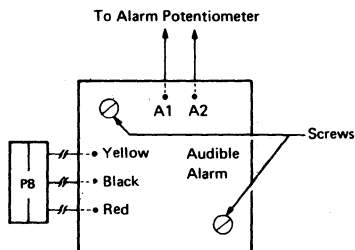

Figure 4-10. Audible Alarm Assembly.
3. Remove the two screws that secure the audible alarm assembly to the base of the enclosure (see Figure 4-10).
4. Note the position of the five wires connected to the audible alarm assembly by push-in connectors (see Figure 4-10).